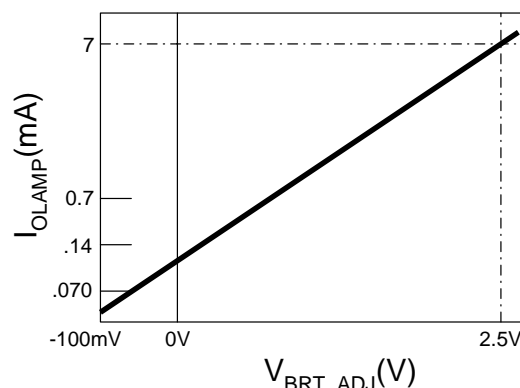

Figure 9 – Average Lamp Current vs.  $V_{BRTE\_ADJ}$  Voltage (per Lamp)
1. By varying the input voltage on the brightness pin as indicated in Figure 9. Caution must be exercised when applying negative voltage to the brightness control input. Applying more than -300mV to any inverter input will cause inverter malfunction (see Absolute Maximum Ratings).